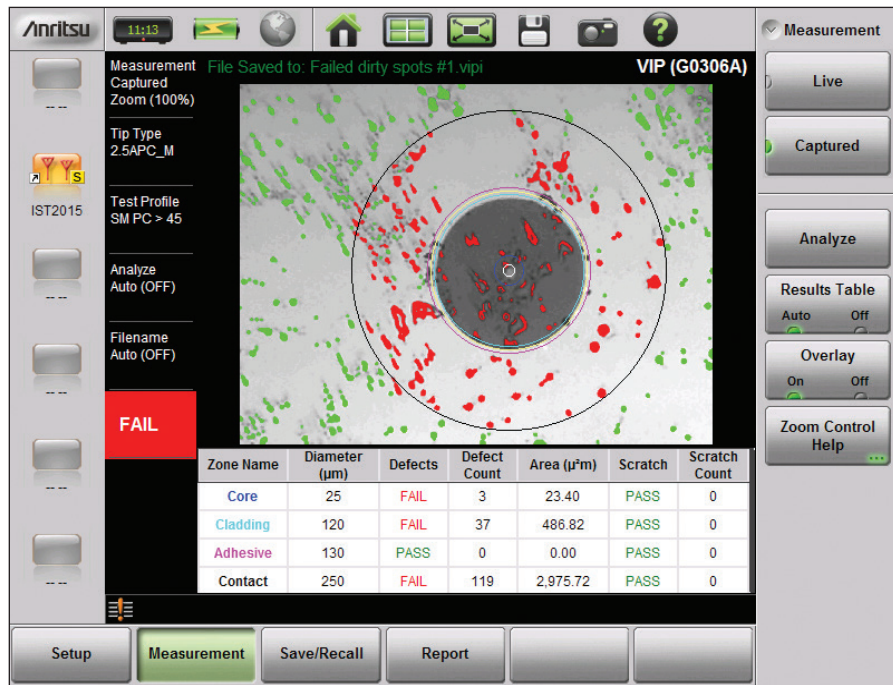

Figure 5: Dirty fiber connector end fails IEC 61300-3-35 standard based test (Oil left on connector end by only one single touch with a bare finger)
4. Dirty fiber. As seen in figure 5, this accounts for the majority of problems found in these types of systems.